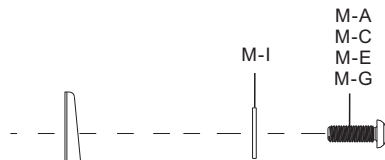
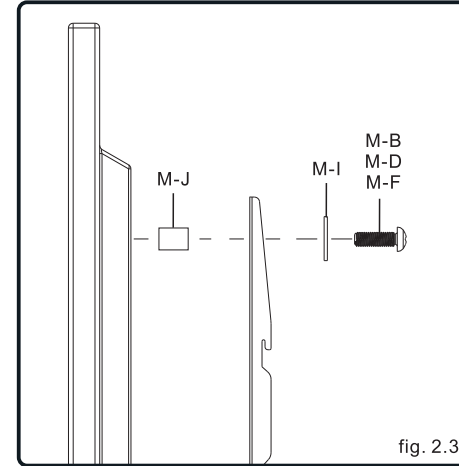
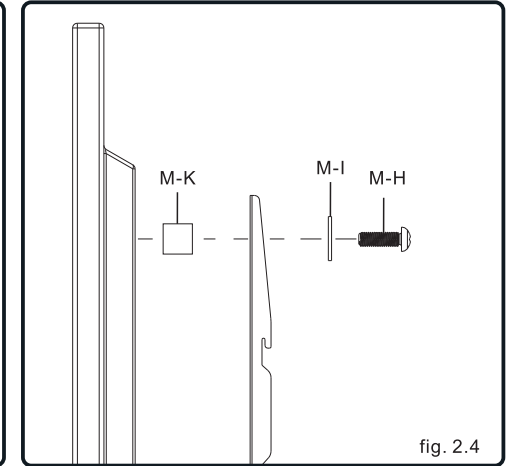

fig. 2.2
fig. 2.3
fig. 2.4
- Attach the adapter brackets to the back of the screen using the appropriate combination of screws, washers, spacers, as shown in fig. 2.2, fig. 2.3 and fig. 2.4.